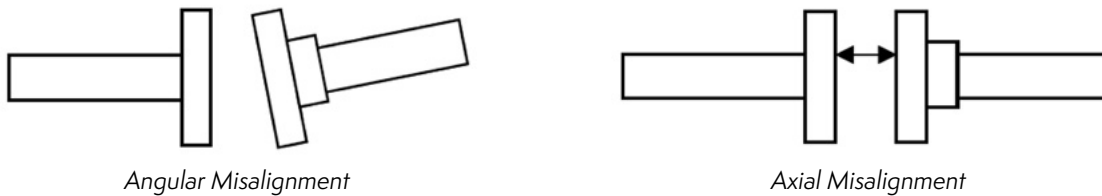

Figure 17 – Checking Angular and Axial Misalignment
6. Check angular and axial misalignment between the drive shaft and both the motor and gear drive couplings. (**Figure 17**)